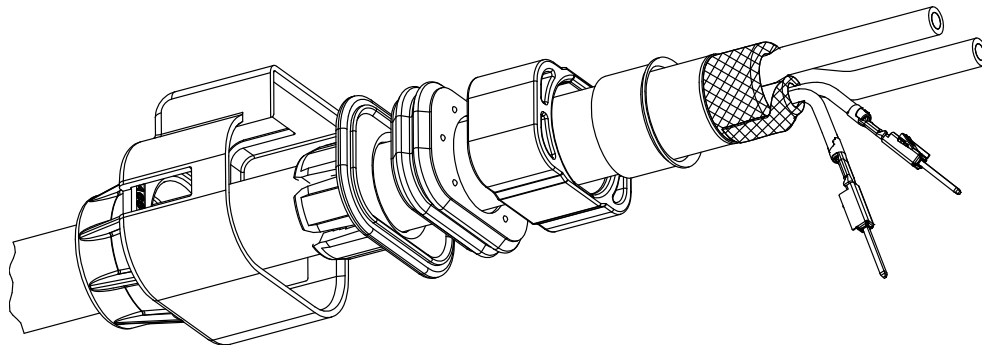

Figure 11
9. Insert the pin contacts over the exposed HVIL conductor strands and crimp as shown in Figure 11. Refer to application specification 114-18021 for specific crimp information.